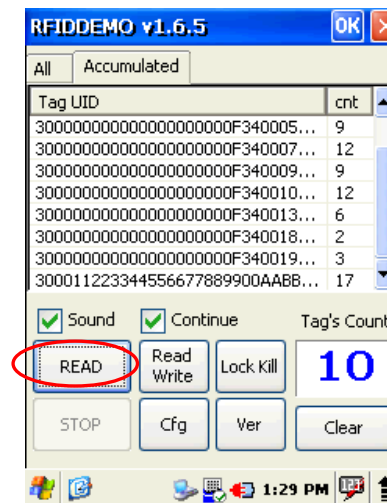
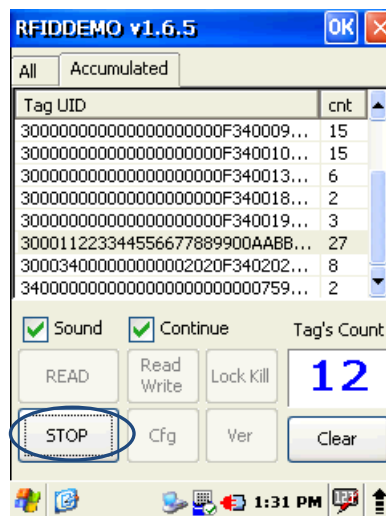

Fig.2. Start Screen in case of normal driving
Fig.3. Shape that the tag is read.
- If the screen like Fig. 2 appears after around 2 seconds, it means that the reader is normally operated.
- When you want read multiple or single tags without any setting change, its reading starts if you click a [READ] button inside Fig.2 . If you click Fig.3, its reading stops.